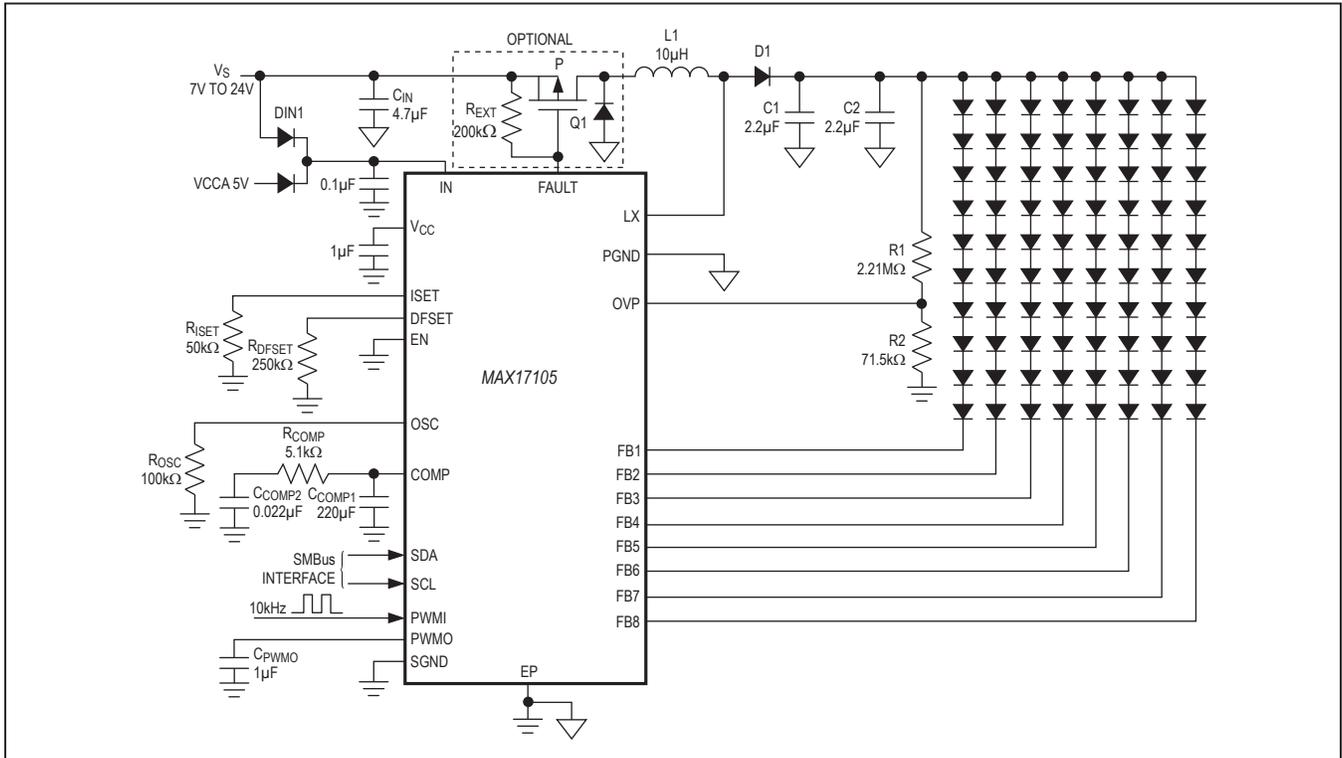

Figure 1. Typical Operating Circuit
Circuit of Figure 1.  $V_{IN} = 12V$ ,  $C_{COMP} = 33nF$ ,  $R_{COMP} = 1k\Omega$ ,  $R_{ISET} = 50k\Omega$ ,  $R_{OSC} = 100k\Omega$ ,  $R_{DFSET} = 250k\Omega$ ,  $PWMI = SGND$ ,  $C_{PWMO} = 1\mu F$ ,  $T_A = -40^{\circ}C$  to  $+85^{\circ}C$ , unless otherwise noted. Typical values are at  $T_A = +25^{\circ}C$ .) (Note 2)
- Note 4:** Minimum voltage drop from  $V_S$  to IN pin, including the forward voltage drop of diode DIN1 used in Figure 1, should be no less than 0.8V. If lower forward voltage drop diode is used, upon step-up regulator input  $V_S$  removal, an OC fault may occur, resulting in SMBus status register `OV_CURR` and `FAULT` bits being set to 1 and violating SMBus specifications.
The MAX17105 typical operating circuit is shown in Figure 1. Table 1 lists some recommended components, and Table 2 lists the contact information of component suppliers.